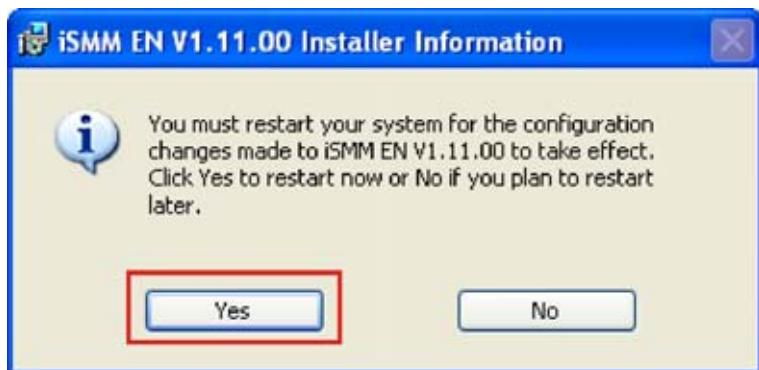

Figure 7-37: iSMM Restart Confirmation
Step 85: The **Restart Confirmation** screen appears. (**Figure 7-37**)